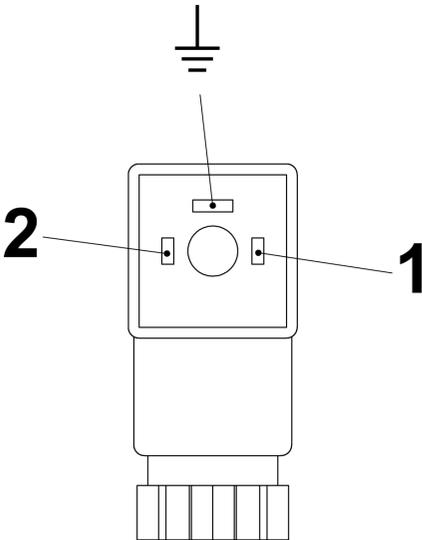
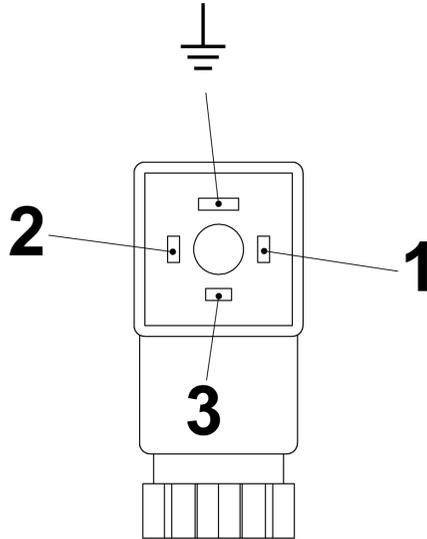

Fig. 26: Pin assignment, plug socket, Normally Open Contact (Form 15x50)
Fig. 27: Pin assignment, plug socket, Change-over contact (Form 15x50)
6.  Make the connections as shown in the connection diagram (Fig. 26 und Fig. 27)